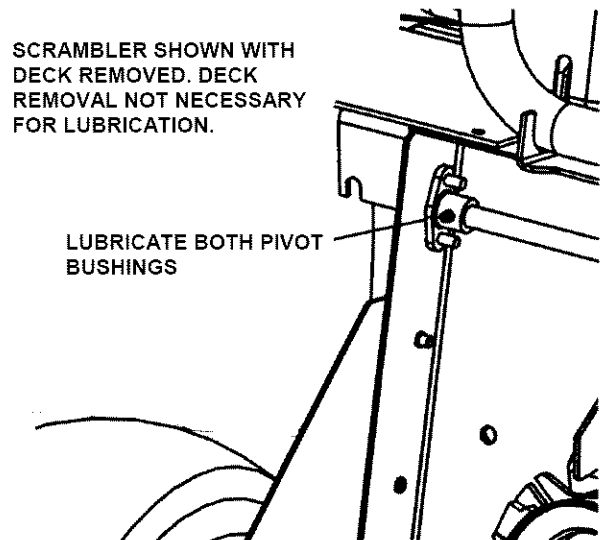

FIGURE 3.9
- e. Lubricate both pivot bushings with three shots general purpose grease from grease gun. See Figure 3.9